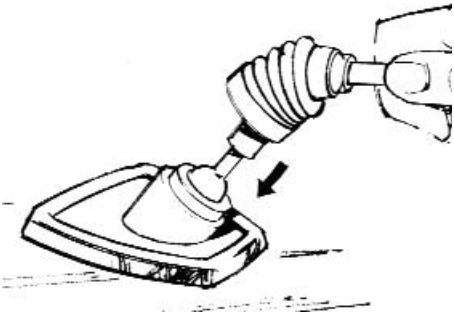

Figure 1
2. Use a padded surface or some other fixture to support the Street Shield EX. Starting from the ball end of the rod, slide a socket boot over each upright. Support windshield on a non abrasive surface and push upright into each upper socket as shown. Do both sides. Figure 1.